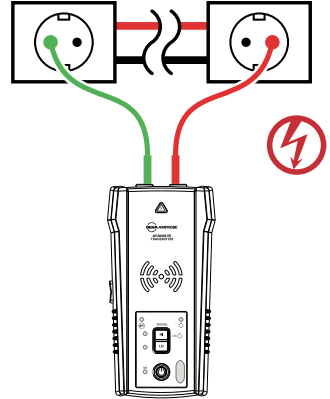

Figure 3.1a: Proper connection with separate neutral
2. Using provided test leads accessories, connect the red test lead to the line/phase wire being traced. For Energized systems the signal will ONLY be transmitted between the load-side to which the Transmitter is connected and the source of power (see Figure 3.1a).